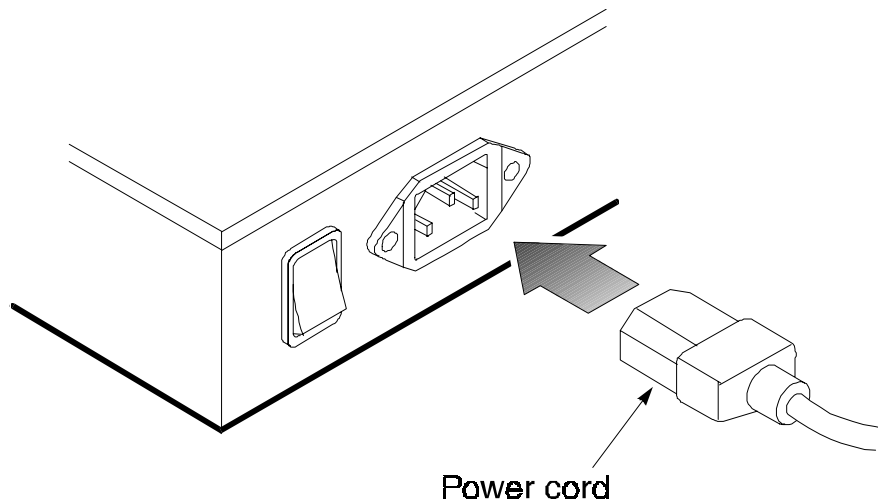

Figure 2-4. Connecting the Power Cord to the Switch
1. Connect the power cord to the switch and to a grounded three-prong wall outlet (Figure 2-4). See Appendix A, “Power Cord Set Requirements,” for more information regarding specific international power cord requirements.